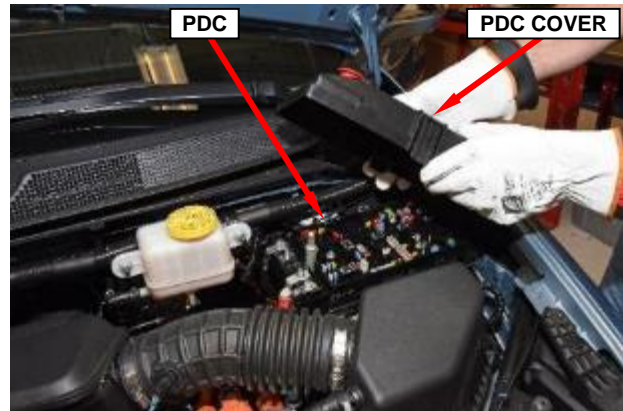

Figure 1 – Power Distribution Center
4. Remove and save the 12-volt Power Distribution Center (PDC) cover (Figure 1).